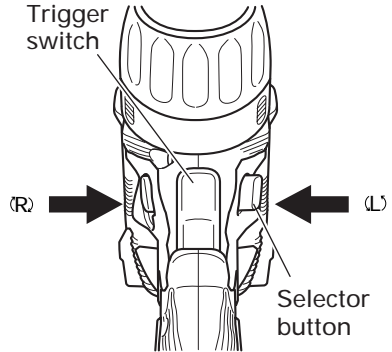

Fig. 17
Loosen the sleeve by turning it toward the left (in the counterclockwise direction as viewed from the front), and then take out the bit, etc. (See Fig. 17)
The L-side of the selector button is pushed to turn the bit counterclockwise. (See Fig. 17) (The (L) and (R) marks are provided on the selector button.)